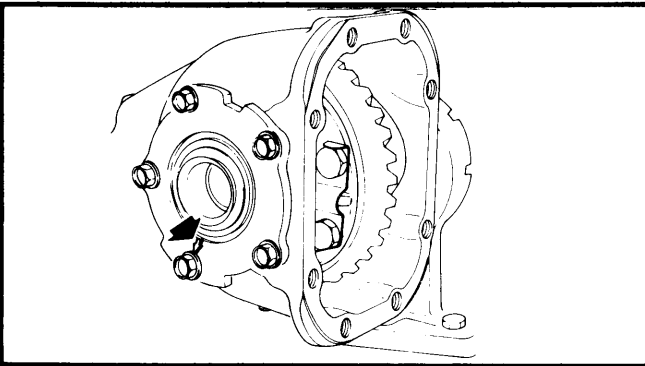

Fig. 12 Aligning Side Retainer During Installation
2) On 810 and 280Z A/T models, install differential case assembly in gear carrier in reverse order of disassembly. Fit correct shims and "O" ring seal in both side retainers in carrier. Arrow should point as shown in Fig. 12.